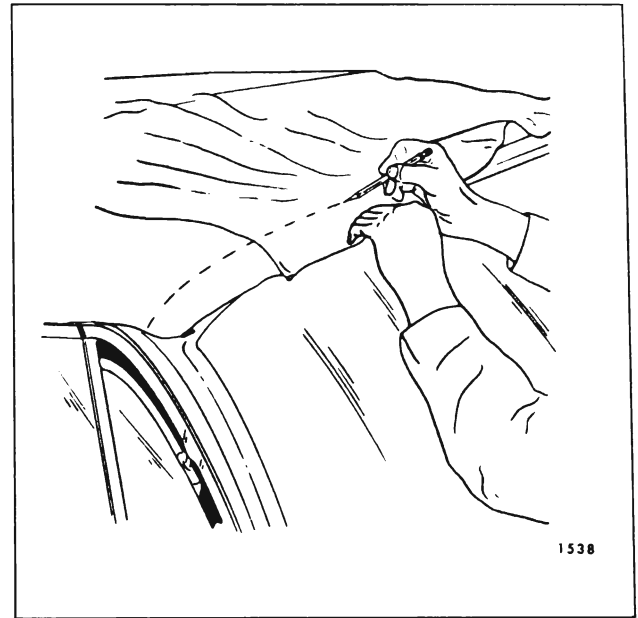

Fig. 13-43 — Marking Top Material At Front Roof Rail
28. At front roof rail, pull top trim material forward to desired tension. While maintaining tension on top trim, place a pencil mark on outer surface of trim material along forward edge of front roof rail (Fig. 13-43).